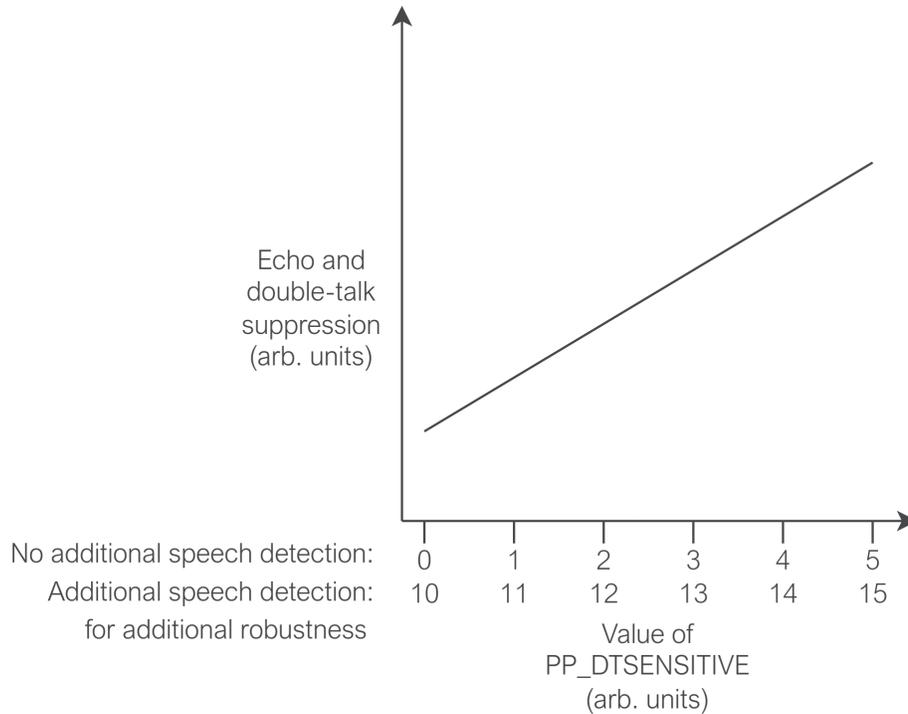

Fig. 4.1: Illustration of relationship between *PP_DTSENSITIVE* value and echo suppression
- *PP_DTSENSITIVE*: *PP_DTSENSITIVE* allows some control over the balance struck between double-talk performance and echo suppression, including the use of an optional near-end speech detector. This is summarised in Fig. 4.1; as echo suppression increases, double-talk performance will tend to decrease as more near-end is suppressed.